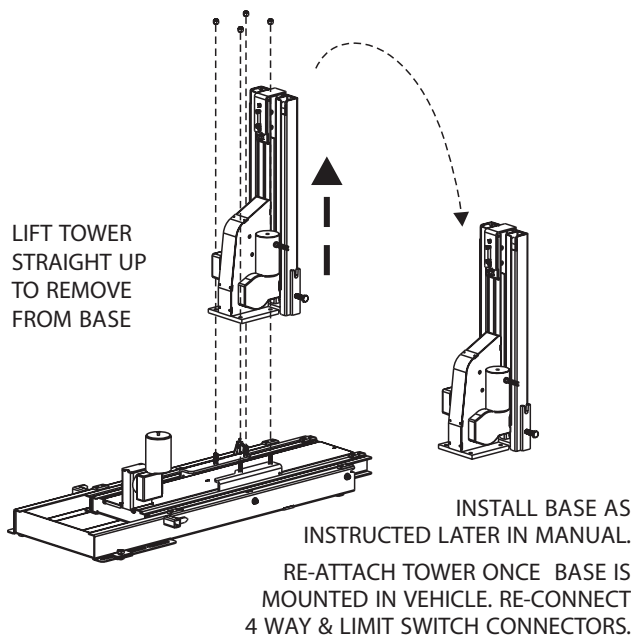

Figure 3-4
3. Lift tower straight up to remove from base. **See Figure 3-4**